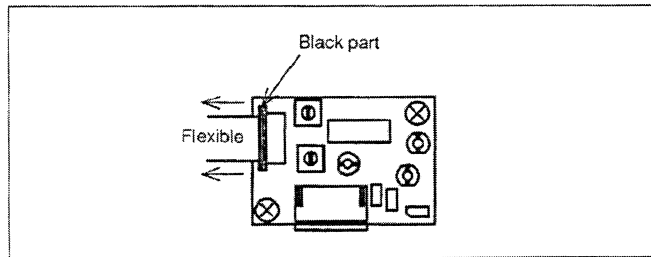

Fig. 5
Removing the preamplifier (Fig.5 and 6)
1. Slide the black part of the connector, which secures the preamplifier's flexible cable, in the direction as shown in Fig.5 to loosen the flexible cable clamp.